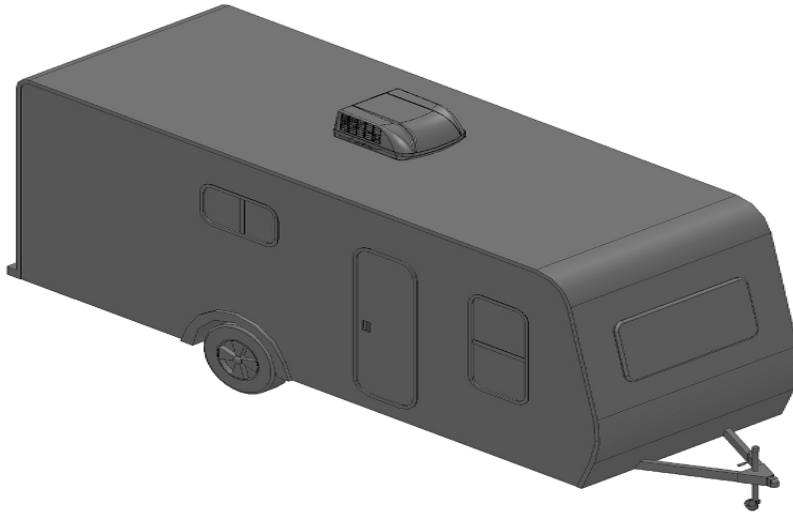

FIGURE 1
1. For one unit installation: The air conditioner / heat pump should be mounted slightly forward of center (front to back) and centered from side to side. See FIG. 1.